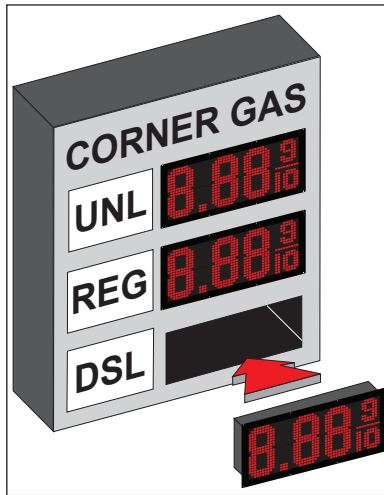

Figure 3: Inserting Display Into a Sign Structure
3. Lift displays and install into the sign structure. **Figure 3** shows a display being inserted into a sign structure.